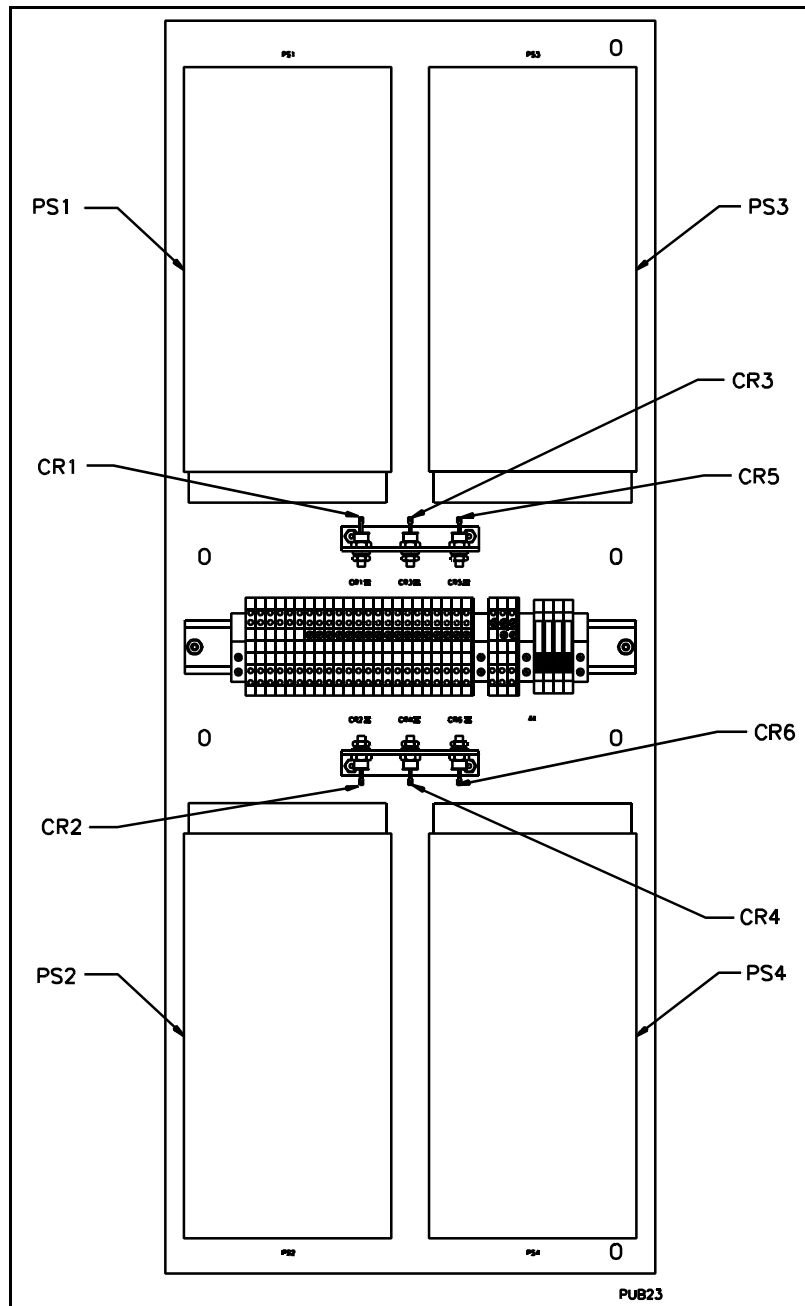

Figure 14.1.7. Power Supply Assembly A4, Front View
14.1.8.3 Power Supply Mounting Plate 7A1A4. The power supply mounting plate (figure 14.1.7) is mounted against the SCA right side interior and supplies all dc operating voltages (-12V, +12V, and +5V) for the other assemblies in the SCA. Each of two 12V supplies output both -12V and +12V, while the two 5V supplies output positive voltage only. Supply outputs are paired by OR diodes, so that loss of either supply of a pair can not affect the operating voltage. The power supply mounting plate also includes DC Power Distribution Assembly 7A1A4A1, which distributes all dc operating voltages and protects the power supply inputs with 3.15A fuses on the 5V supply inputs and 2.5A fuses on the 12V supply inputs.